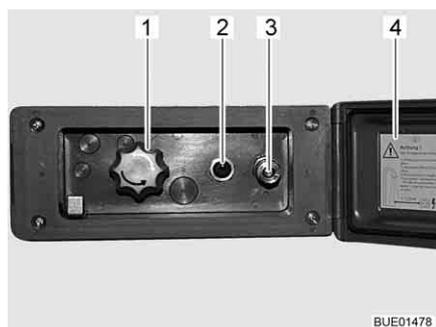

Fig. 150 External shower connection point
- Unlock and open the cover (Fig. 150,4).
- Attach hose of the external shower to the quick closure (Fig. 150,3).
- Switch on the water pump using the switch (Fig. 150,2).
- Adjust the water temperature with the rotary knob (Fig. 150,1) as desired.
- Switch off the water pump using the switch (Fig. 150,2).
- Close the cover (Fig. 150,4) and lock with key.
- Turn knob (Fig. 150,1) to the centre position.